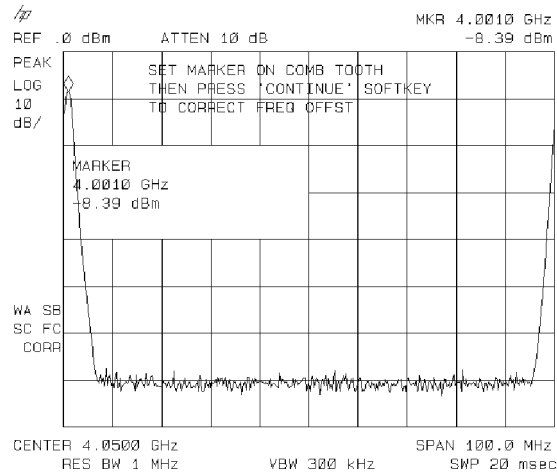

Figure 6-31. Using the Correct to Comb Function
3. Press **(AUX CTRL)**, **COMB GEN ON OFF (ON)**, then **CORRECT TO COMB**. The marker is activated and the menu for the correct to comb routine is displayed. The message **Set marker on comb tooth then press CONTINUE softkey to correct freq offst.** is displayed. See Figure 6-31.